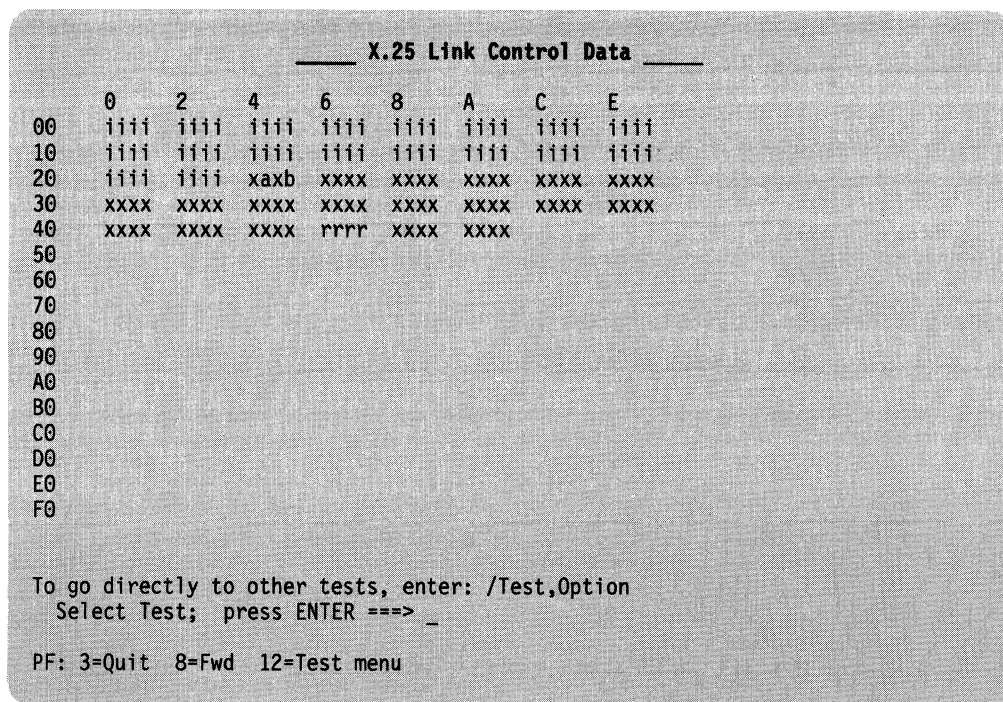

Figure 4-38. Example of an X.25 Link Control Data Panel
**Test 6, Option 5 (X.25):** Displays the X.25 Link Control Data shown in Figure 4-38 on page 4-55 and the Host Control Data shown in Figure 4-39 on page 4-56.